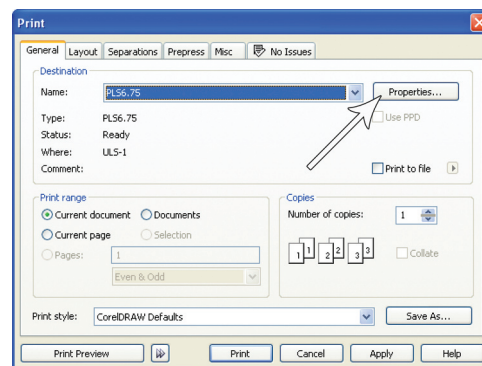
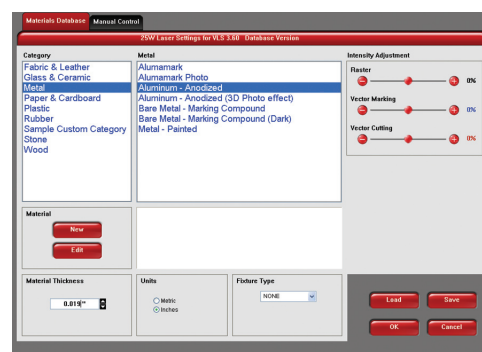

Figure 4
Figure 5
2. When you are ready to print the job, click FILE and then click PRINT. Make sure that your laser system appears in the DESTINATION NAME dropdown list, and then click PROPERTIES (Figure 4) to display the VersaLASER system printer driver settings (Figure 5).
3. Choose your material, in this case metal, and then select the correct material type, Aluminum Anodized (Figure 5).
7. Now click on PRINT in the Print dialog window (Figure 4).